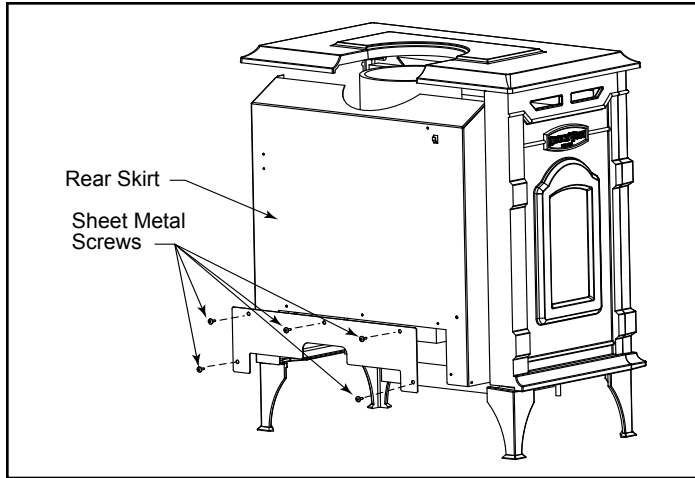

**Figure 64** - Attach fan rheostat.
8. After sliding the firebox in place, the rheostat control switch attaches to the left side of the valve bracket at the front of the stove. (Figure 64)